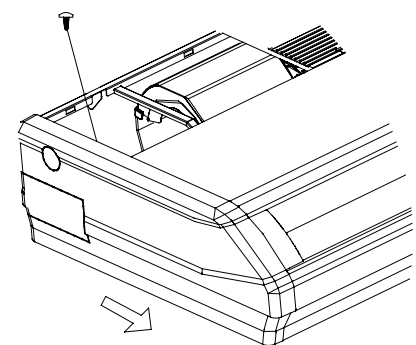

Fig.3
- 1) Remove the side panel fixing screw and pull to the front direction (arrow direction) to remove (Refer to Fig.3).